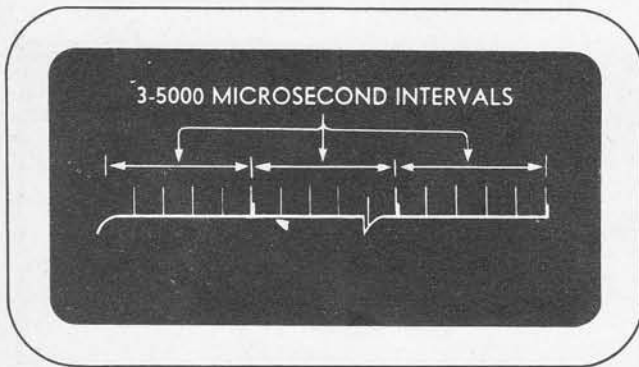

Figure 3-25
(3) INDICATED TIME DIFFERENCE BETWEEN SIGNALS.—Figures 3-25 to 3-34 are for receiver-indicator operation, timing of receiver-indicator.